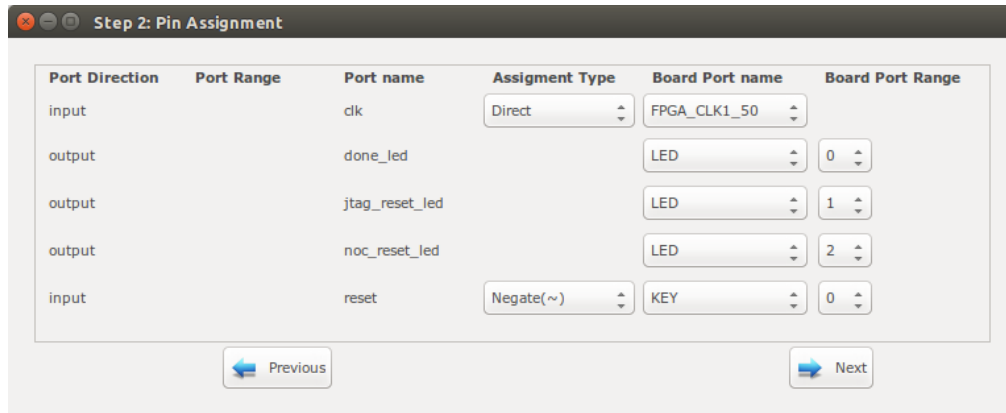

Figure 10.3: DE10-Nano FPGA board pin assignment.
8. Follow instructions in Compile the generated RTL code using Quartus II software to compile the desired emulation model for an Altera FPGA board. For this example we used the DE10-Nano FPGA board which its pin assignment is shown in Figures 10.3.